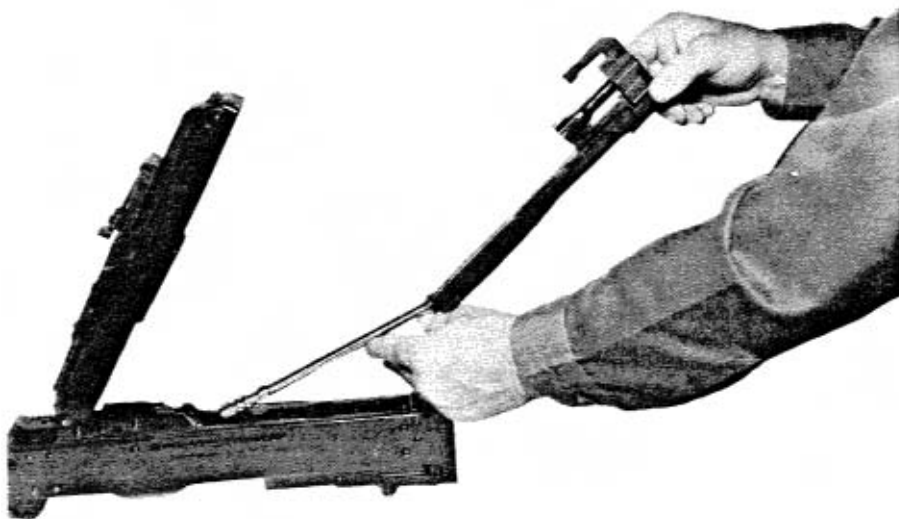
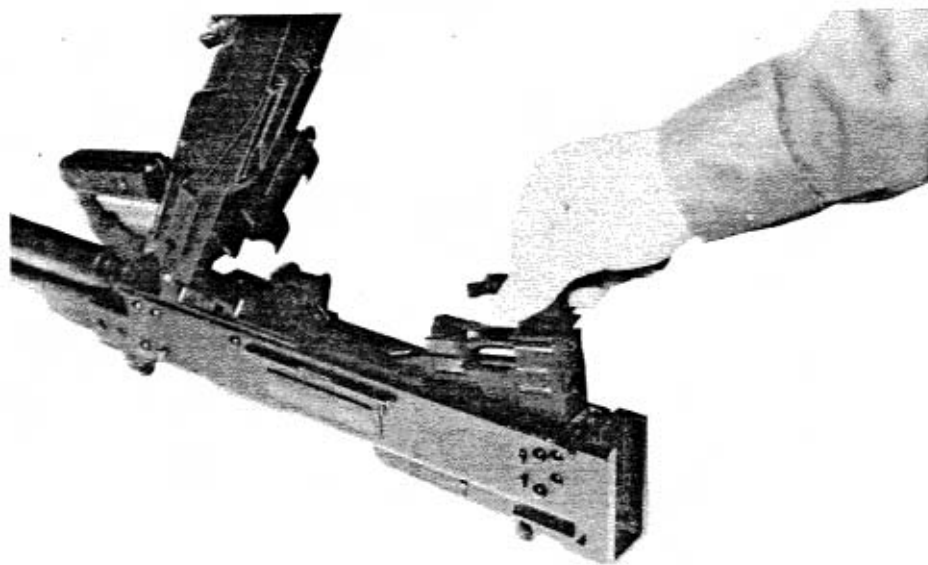

FIG. A-18. INSERTING CARRIER BLOCK AND GAS PISTON INTO RECEIVER
FIG. A-19. CARRIER BLOCK IN FOWARD POSITION
e. Take hold of the carrier block by the feeding extractor with the right hand so that the right thumb holds the bolt forward. Hold the weapon with the left hand and push the electric trigger. Insert the carrier block with the gas piston into the receiver (Fig. A-18) and place the carrier block in the fully forward position (Fig. A-19).